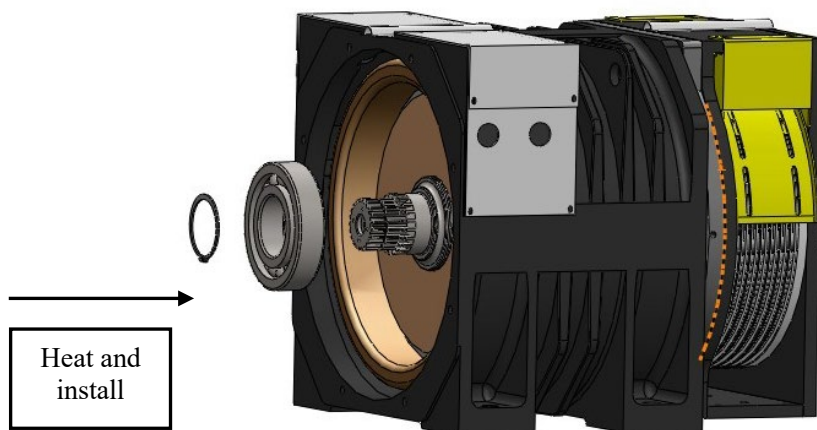

Figure 74 Install Rear Bearing
3. Then install the retainer ring 90 with retainer ring plier. See Figure 74.